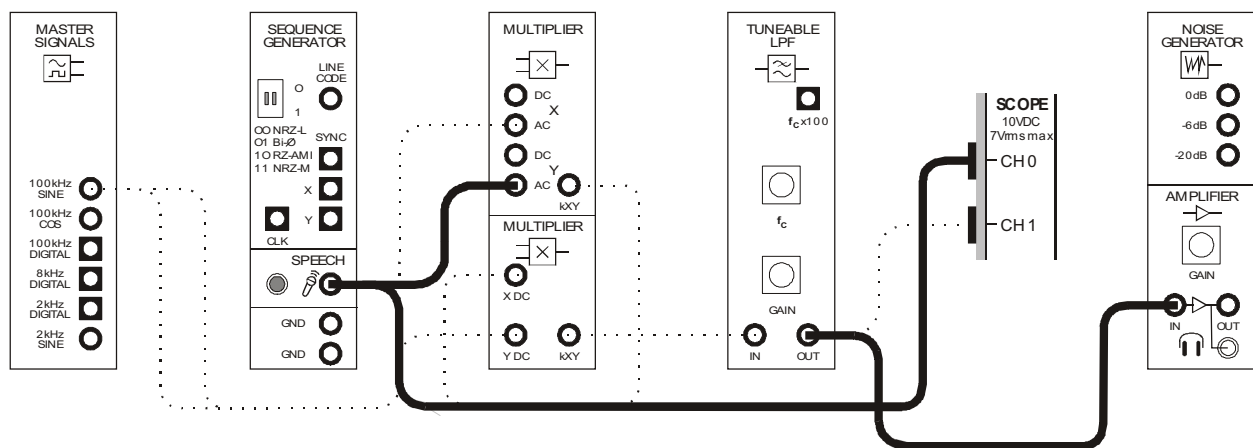

Figure 9
26. Disconnect the leads to the Amplifier module and modify the set-up as shown in Figure 9 below.